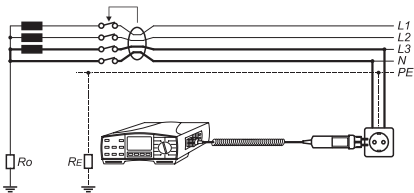

Figure 67: Test leads connection to COMMANDER
- ▶ Connect test leads to UUT in accordance with Figures 67 or 68. If desired, this connection information can directly be retrieved on the measurement instrument using the key 'HELP'. Repeated pressing of the key 'HELP' indicates the various options for connection.